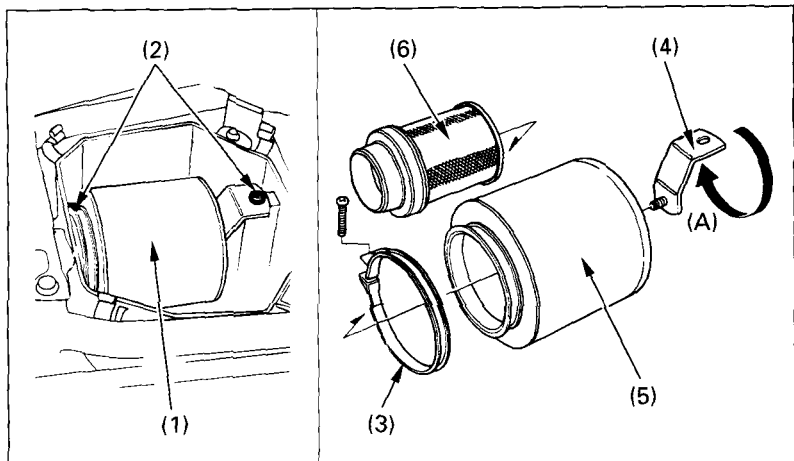

Fig. 4-6
3. Remove the screws (2) (Fig. 4-6) and remove the air cleaner assembly (1) from the air cleaner housing.
4. *Unscrew the clamp (3) and remove the mounting bracket (4).*
5. Remove the air cleaner (5) from the air cleaner body (6).